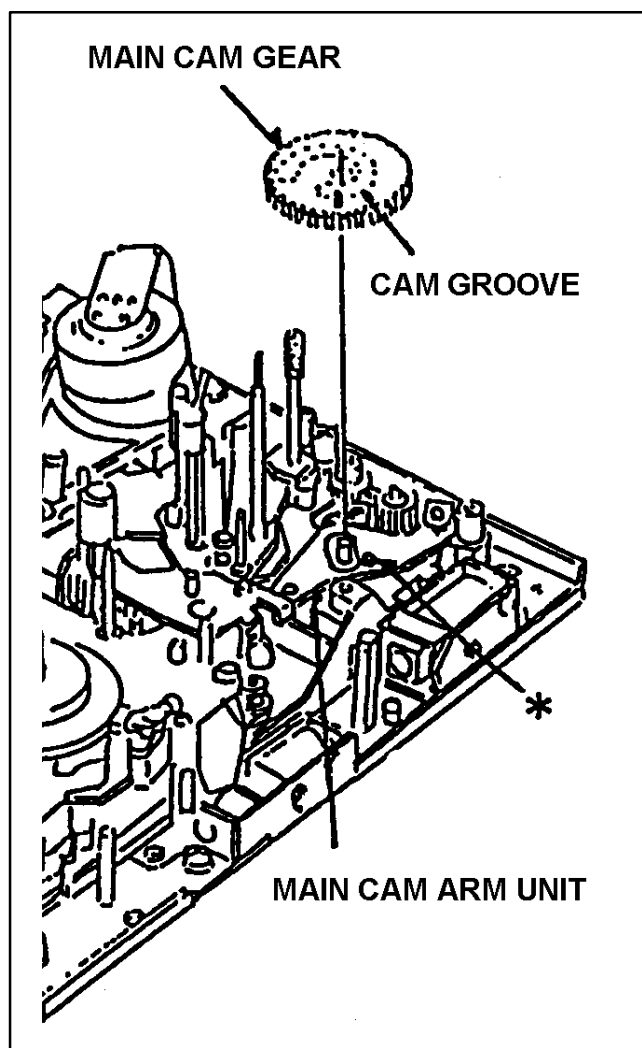

Figure 1-15
1. Remove the Pinch Solenoid Unit and Loading Motor Unit. (Refer to item 1-10 and 1-13.)
2. Remove the Main Cam Gear as shown in Figure 1-15.
1. Install the Main Cam Gear, then the pin of Main Cam Arm Unit (*) should be matched with the groove position of Main Cam Gear as shown in Figure 1-15.
3. After installation, execute the Pinch Solenoid Position Adjustment. (Refer to item 1-11)